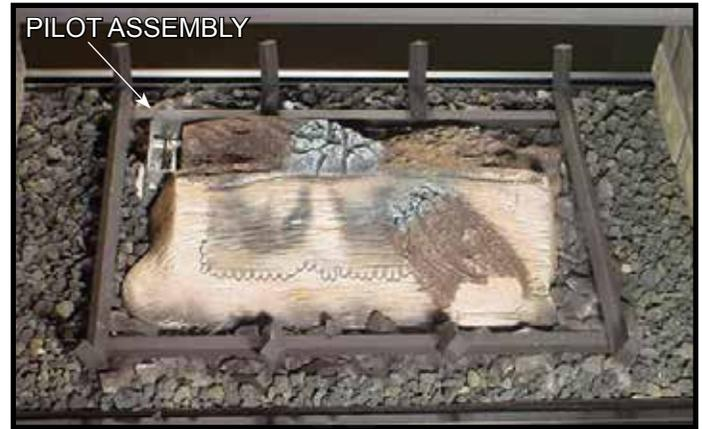

Figure 9.6 Placement of Ember Materials
- When placing Glowing Embers® onto the burner care should be taken so that the ports are not covered. Place the dime-size ember pieces just in front of the port trail, but not on or in between the ports (see Figure 9.6). Failure to follow this procedure will likely cause lighting and sooting problems.